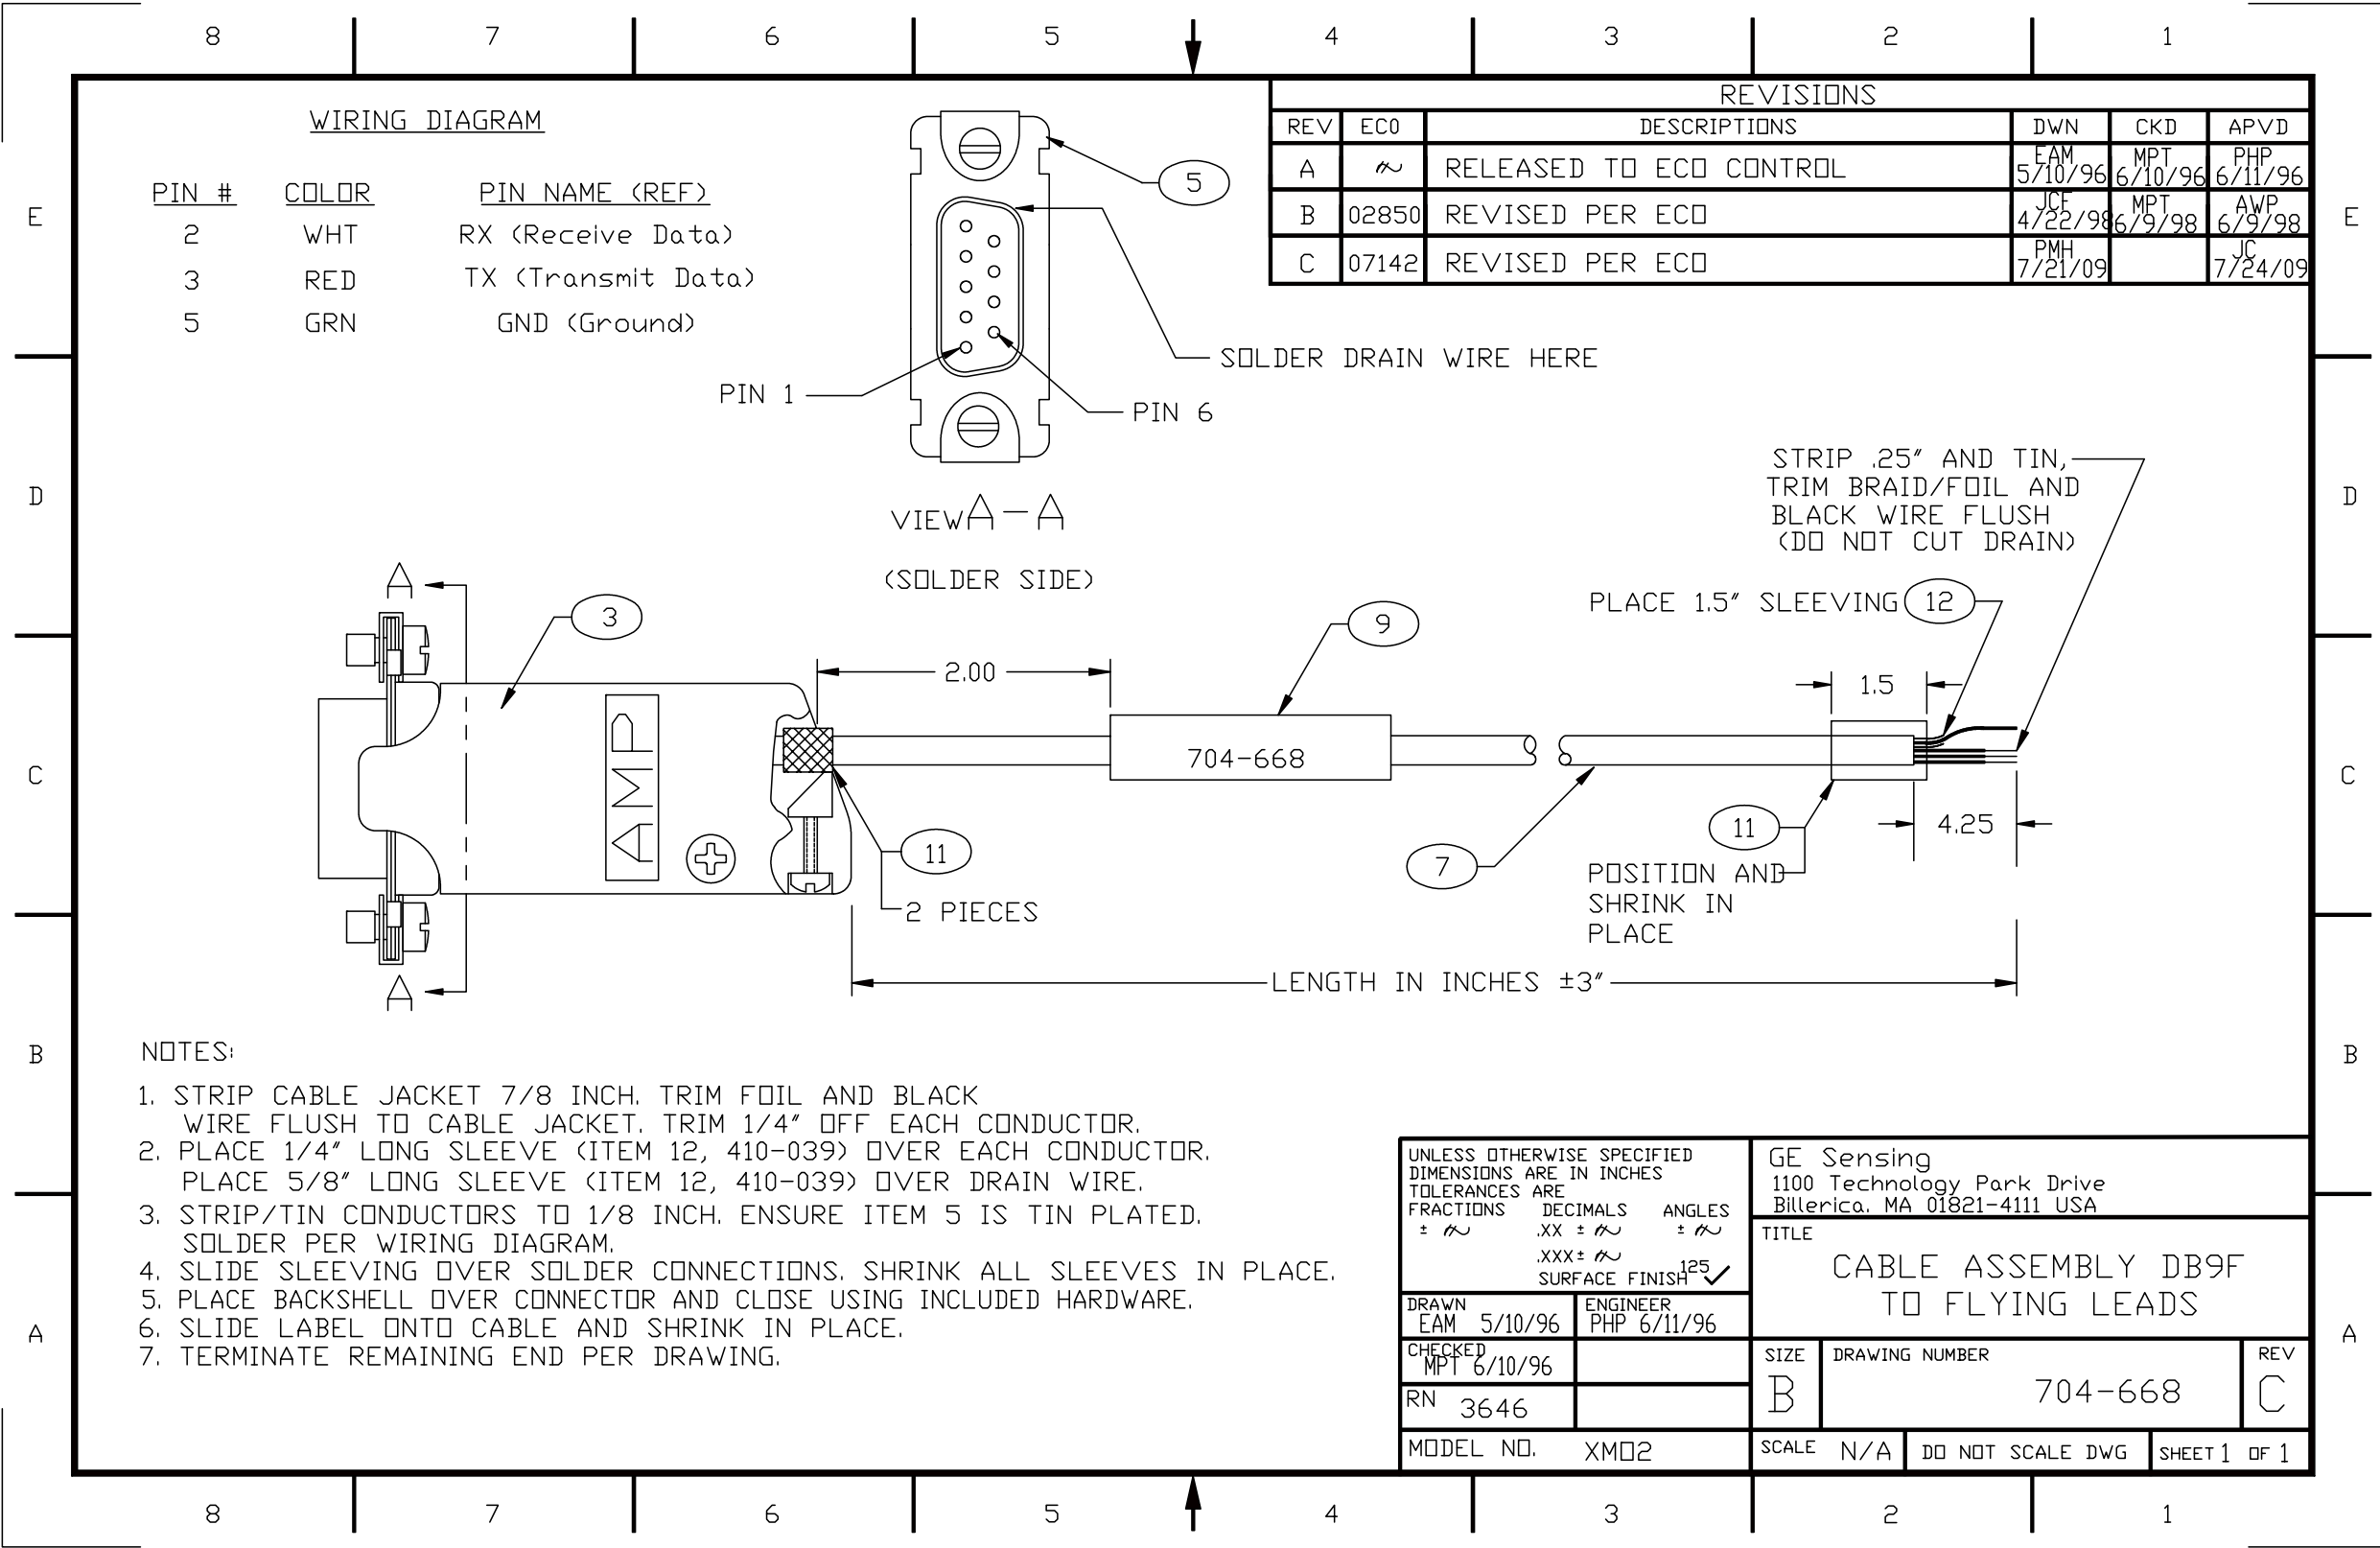

Figure 23: RS232 Cable Assembly (Drawing 704-668_rev C)
- Figure 23: RS232 Cable Assembly (Drawing 704-668_rev C) ----- 78